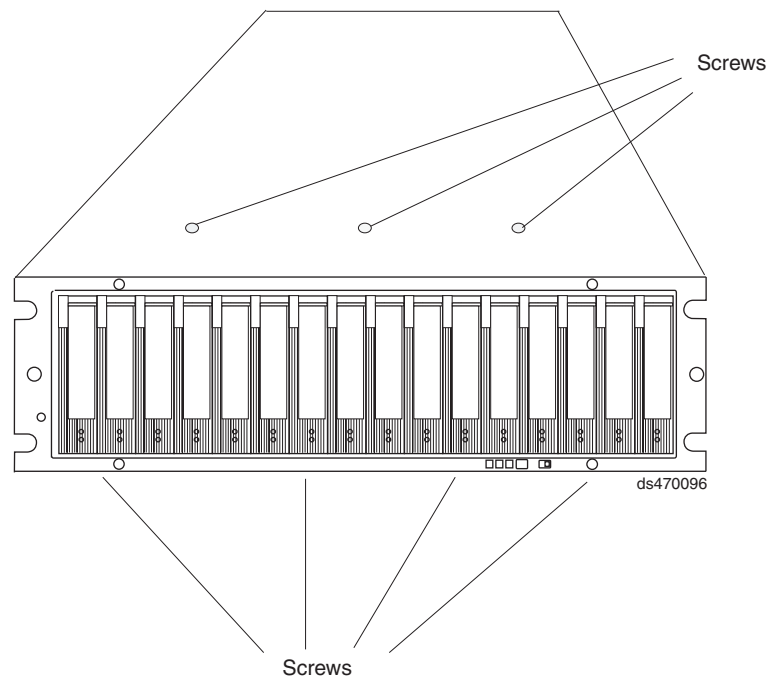

Figure 39. Screws holding the top and bottom sides of the chassis to the cage frame
13. Pull the chassis outward from the front of the rack and remove from the rack. Place it on a level surface. Look for a row of three Phillips screws on top of the chassis and a row of four Phillips screws on the bottom of the chassis, as shown in Figure 39 on page 89. Remove the seven Phillips screws using the #1 Phillips screwdriver. Save these screws.
18. Install the seven Phillips screws (three on top and four on bottom) that hold the front cage frame to the EXP5000 chassis that you removed in step 13 on page 88, as shown in Figure 39.